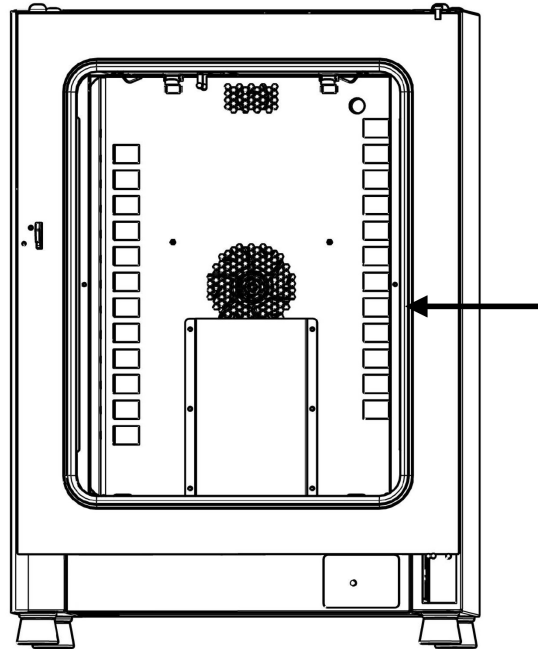

Figure 10-1 Door seal replacement (example showing OMH Series oven)
2. Starting on the hinge side of the door, position the seam of the new seal at the location indicated by the arrow in figure 10-1 on page 10-4.